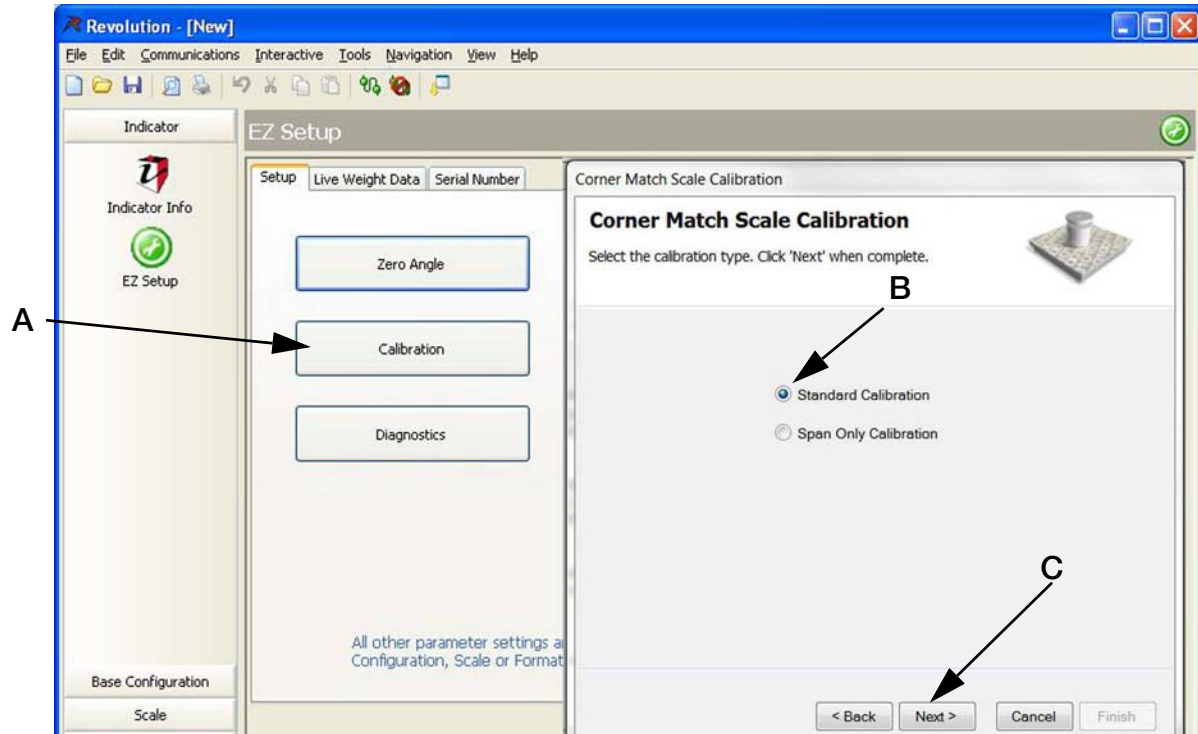

Figure 5-3. Enter Calibration
3. In set-up select *Calibration* (Figure 5-3 A).
4. Select “Standard Calibration” (Figure 5-3 B)
5. Press **Next** (Figure 5-3 C).